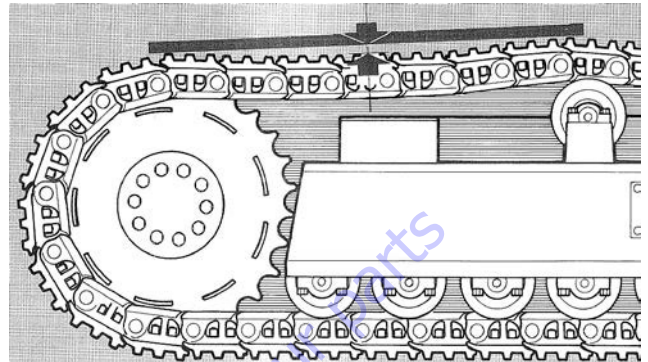

Figure 3-22. Track Tension
21. Track is correctly tensioned when track deflection at position indicated in Figure 3-22. is approximately 20 mm (0.787 in).